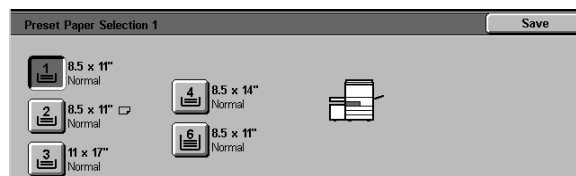

Figure 50: Preset Tray screen
- If you selected a Preset Paper Selection option, touch the desired tray button on the Preset Paper Selection screen (Figure 50).